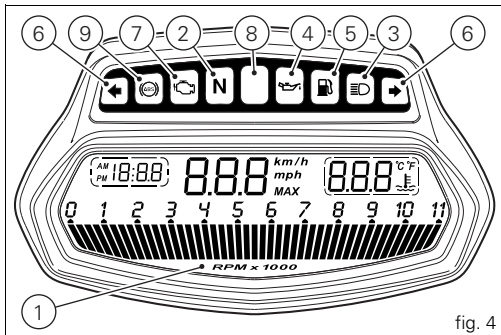

fig. 4
- 8) Limiter light “Over rev”/ traction control light “DTC” (RED) (fig. 4):
- 9) ABS LIGHTS  (AMBER YELLOW) (fig. 4). This turns on to indicate that ABS is disabled or not functioning.
In the event of a sensor "error", a string of flashing dashes ("---") is shown and the "Engine/vehicle diagnosis - EOBD" light (7, fig. 4) comes on.